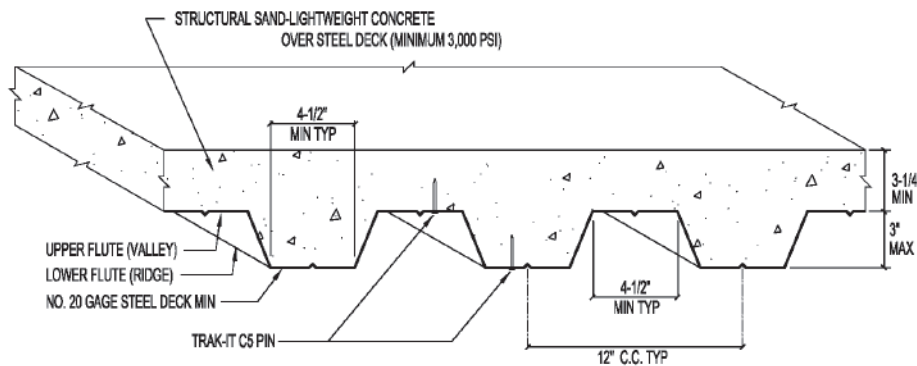

Figure 2: Fastener installation location in 3-inch deep composite deck.
- The steel deck must have a minimum base material thickness of 0.034 inch, minimum yield strength, F_y , of 33ksi, and conform to the profile shown in Figure 2. Concrete fill must be at least 3-1/4 inches above the top flutes.